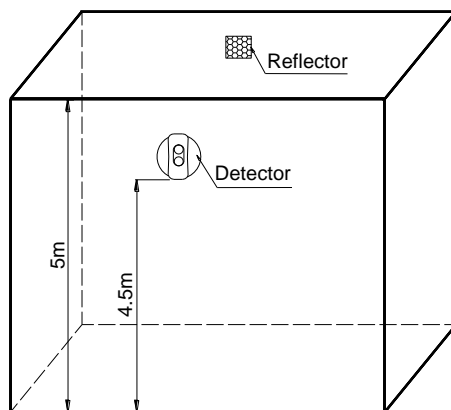

Fig. 3
- (1) When space height is not over 5m, the detector and reflector should be mounted on the two facing walls 0.5m from the ceiling, as shown in Fig. 3.